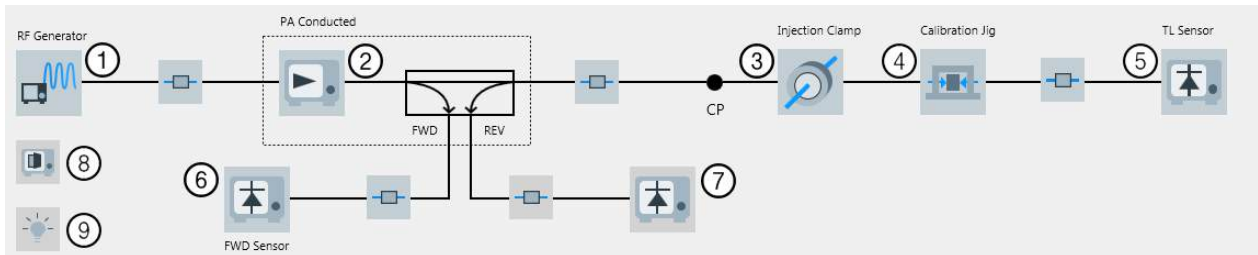

Figure 4-148: EMS hardware setup diagram (conducted) for BCI in Calibration View
- The "Calibration View" (see Figure 4-148)